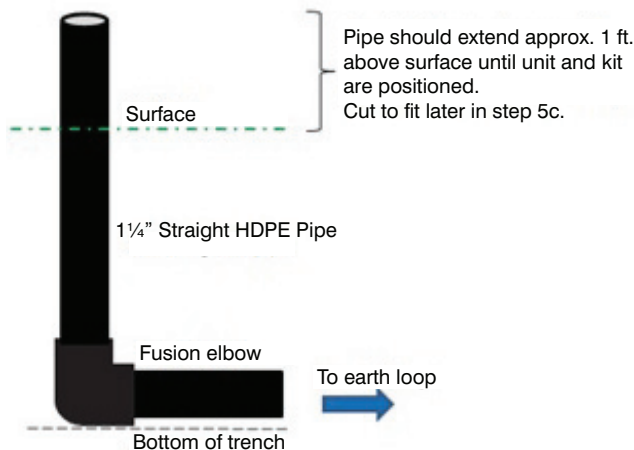

Fig. 2 — HDPE Riser Configuration (not to scale)
- Use straight 1-1/4" HDPE pipe for vertical section of riser to flow center. At this point, risers should extend about 1 foot (1') above finish grade. These will be cut to length in a later step below (see Fig. 2).